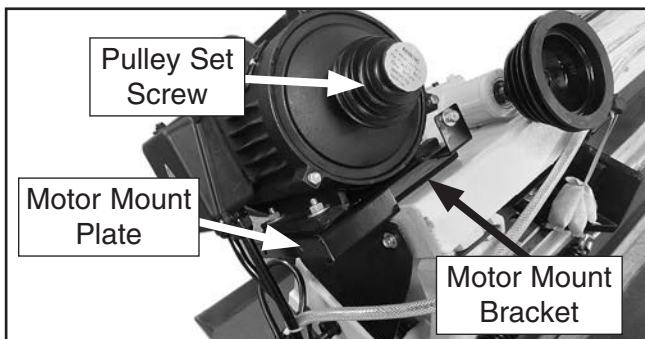

Figure 14. Motor installed on motor mount bracket.
2. Slide motor mount plate into motor mount bracket (see **Figure 14**).
4. Install V-belt onto pulleys, then use a straight-edge to check pulley alignment. If pulleys are not aligned, loosen motor pulley set screw (see **Figure 14**), adjust pulley, then re-tighten set screw.